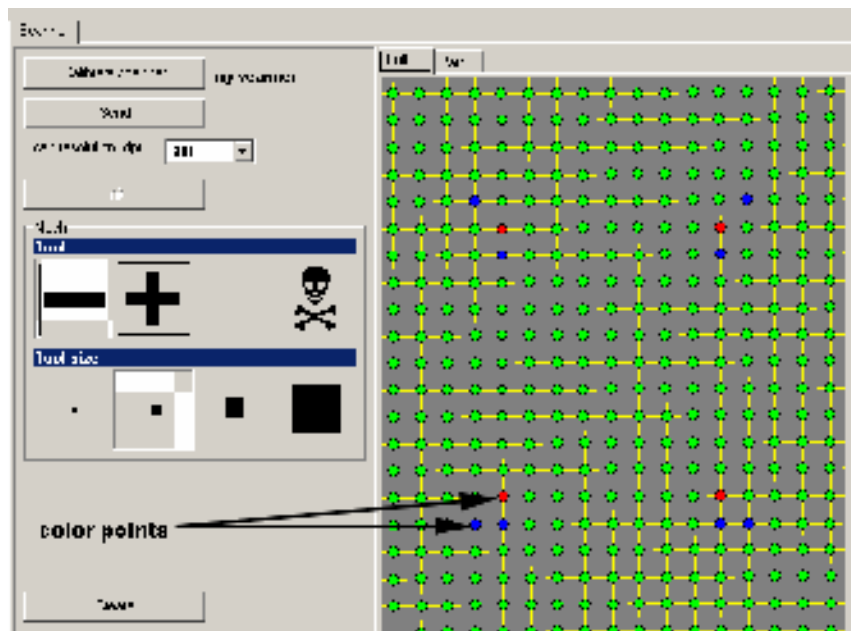

Fig 2.7.12
- Wait one minute, and the following information will appear (Fig 2.7.12):